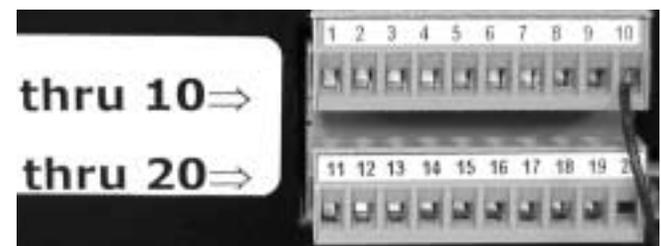

Figure 16. Contacts Connection
1. Install a wire between terminal #10 (shown) or terminal #13 and contacts or switch (see Figure 16).